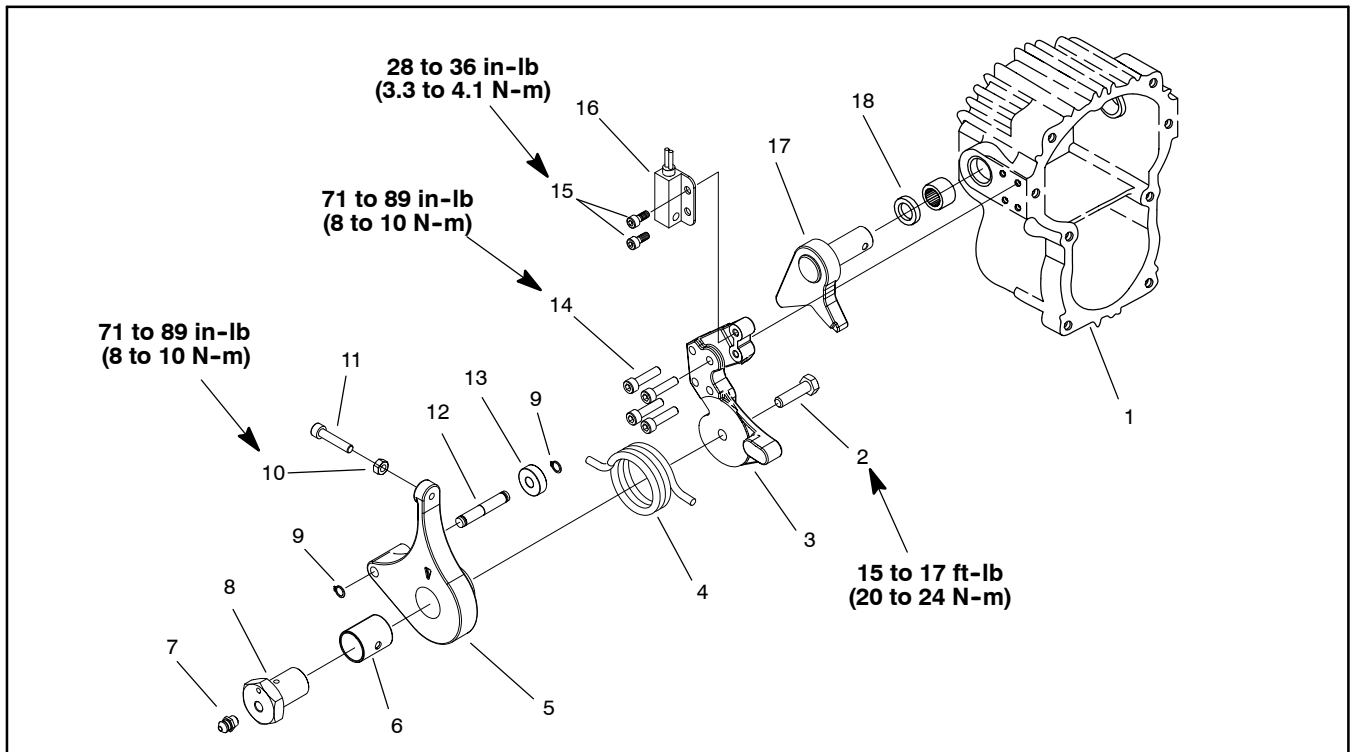

Figure 30
Disassembly (Fig. 30)
1. Disassemble neutral arm components on hydrostatic transmission as needed using Figure 30 as a guide.
Assembly (Fig. 30)
1. Assemble neutral arm components to hydrostatic transmission using Figure 30 as a guide. If eccentric pin (item 8) was removed, make sure that mark on eccentric pin is orientated to top of transmission. Note fastener torque specifications shown in Figure 30.